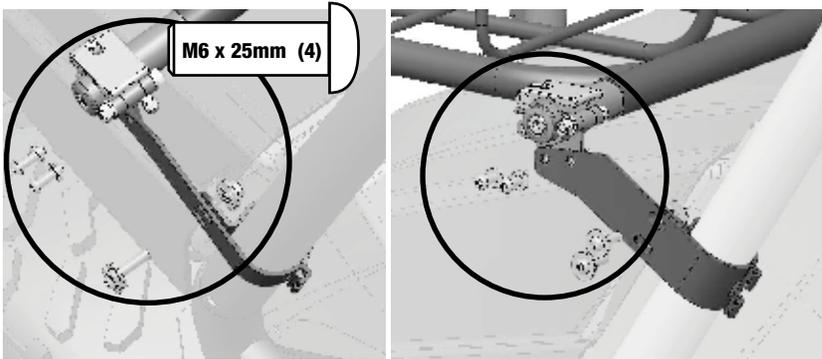

fig. 7
- 6 Using a #4 allen wrench and 10mm wrench, Attach the ROPS Clamps (F) to the sides of the roll cage with (4) M6 x 25mm button head bolts as shown in figure 7.